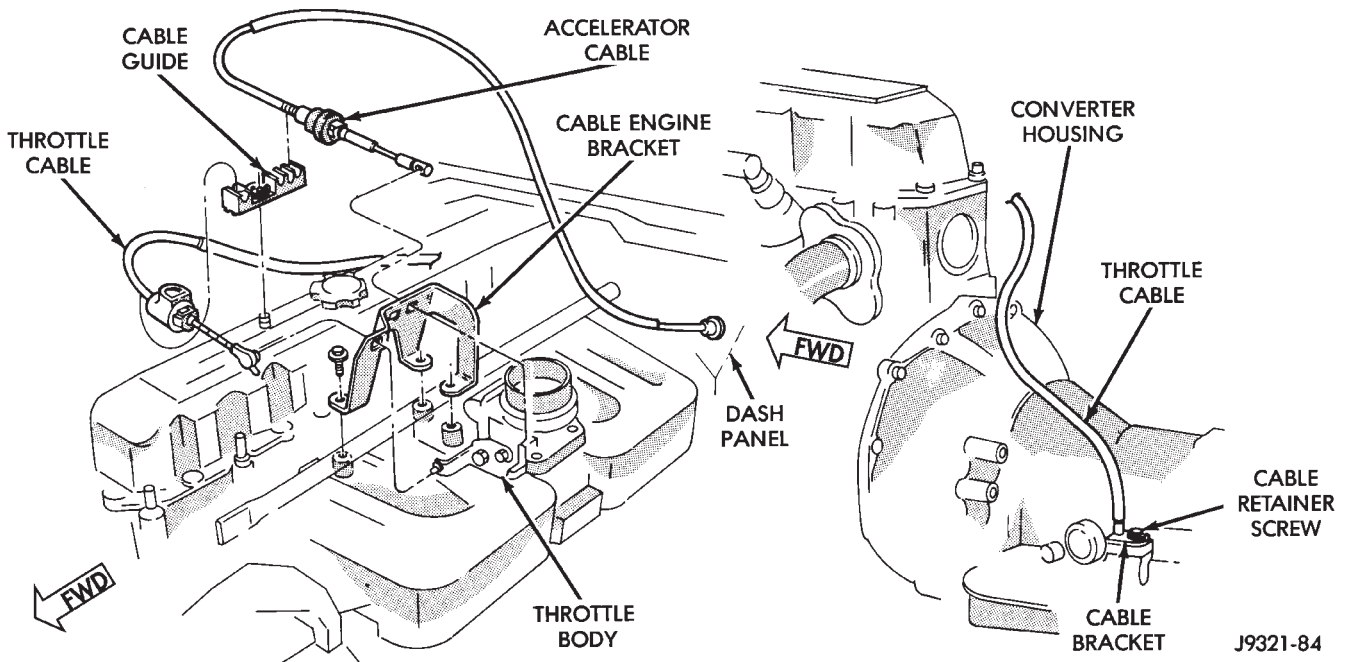
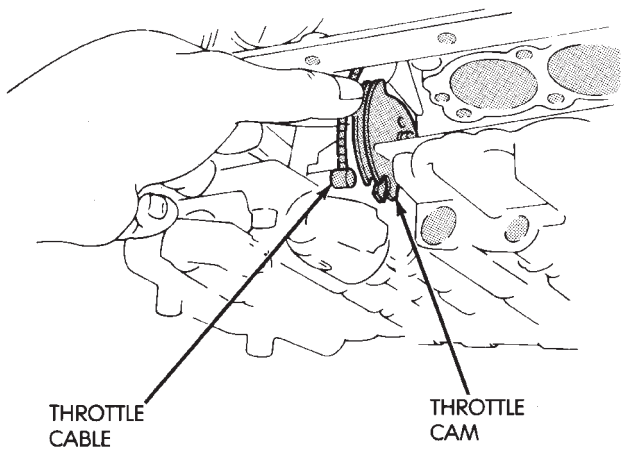

Fig. 41 Transmission Throttle Cable Attachment
Fig. 42 Removing/Installing Transmission Throttle Cable
(1) In engine compartment, disconnect cable from throttle linkage. Then compress cable mounting ears and remove cable from engine bracket (Fig. 41).
(2) Raise vehicle.
(3) Remove transmission oil pan.
(4) Disengage cable from throttle valve cam (Fig. 42).
(1) Lubricate and install new seal on cable.
(2) Insert cable in transmission case.
(3) Attach cable to throttle cam (Fig. 42).